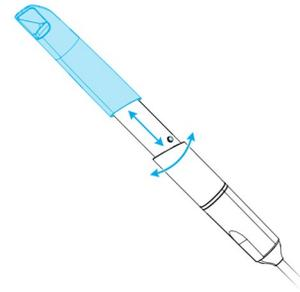

Figure 7: Assembling and disassembling the handpiece sleeve
1. Disassemble the handpiece sleeve (see *Figure 7: Assembling and disassembling the handpiece sleeve, p. 19*).